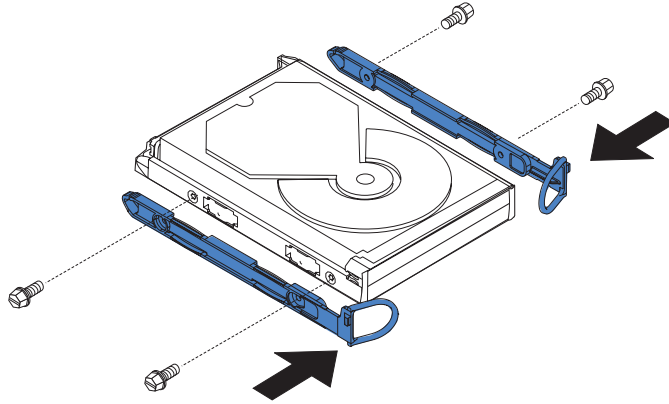

Figure 89. Attaching the rails to the SAN Volume Controller 2145-4F2 disk drive
8. If you are exchanging the disk drive for another, see Figure 89 on page 308. Find the rails and screws that are shipped with the new disk drive. Attach the rails to the disk drive.